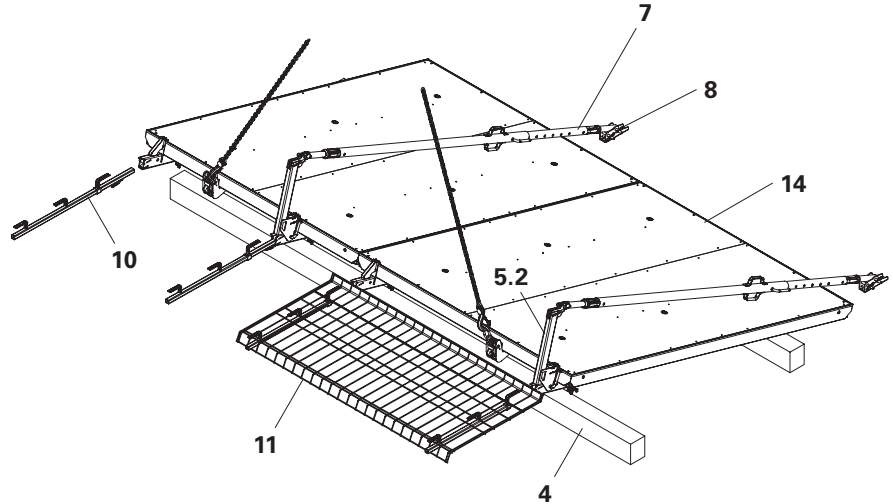
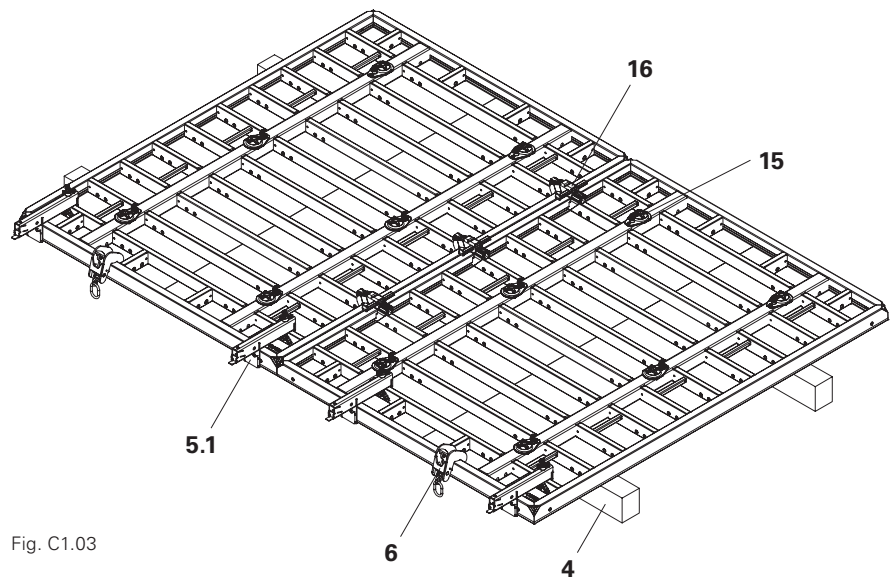

Fig. C1.02
Fig. C1.03
1. Set aside the formwork element (14) and carefully tip back.
2. Lower formwork element (14) to approx. 90 cm. Unhook the Side Mesh Barrier PMB S 260 (11) and remove the Guardrail Posts MXK (10).
3. Rest formwork element (14) on square timbers 20/16 cm (4). (Fig. C1.02)
1. Remove the Push-Pull Prop RS (7).
2. Remove Base Plate-3 f. RS 210-1400 (8) from the Push-Pull Prop RS (7).
3. Pull out Pin Ø16x42mm ga and remove the mounting part (5.2). (Fig. C1.02)
4. Turn the formwork unit (14) onto the formlining side and support with square timbers 20/16 (4).
5. Remove Lifting Hook MX 1.5t (6), Wingnut MX15 (15) and, if necessary, the Alignment Coupler BFD (16).
8. Unscrew Wall Formwork Bracket MX WK and close Anchor Sleeve M24 with a plug. (Fig. C1.03)